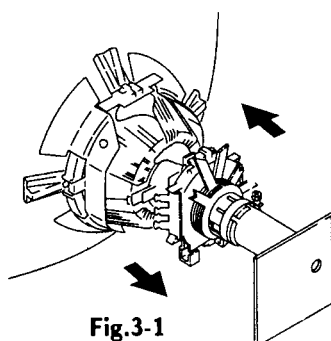

Fig.3-1
(Fig.3-1 to 3-3)
4. Move the deflection yoke forward, and adjust so that the entire screen becomes red. (Fig.3-1)